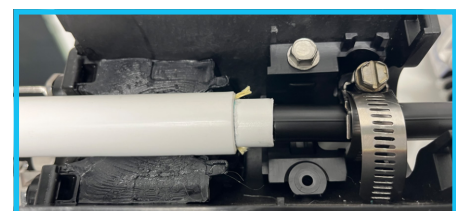

Figure 7.6
7. If installing R-DISAF cable, ensure the outer sheath and shock absorbing layer are positioned above the removable gel seal [Figure 7.6].